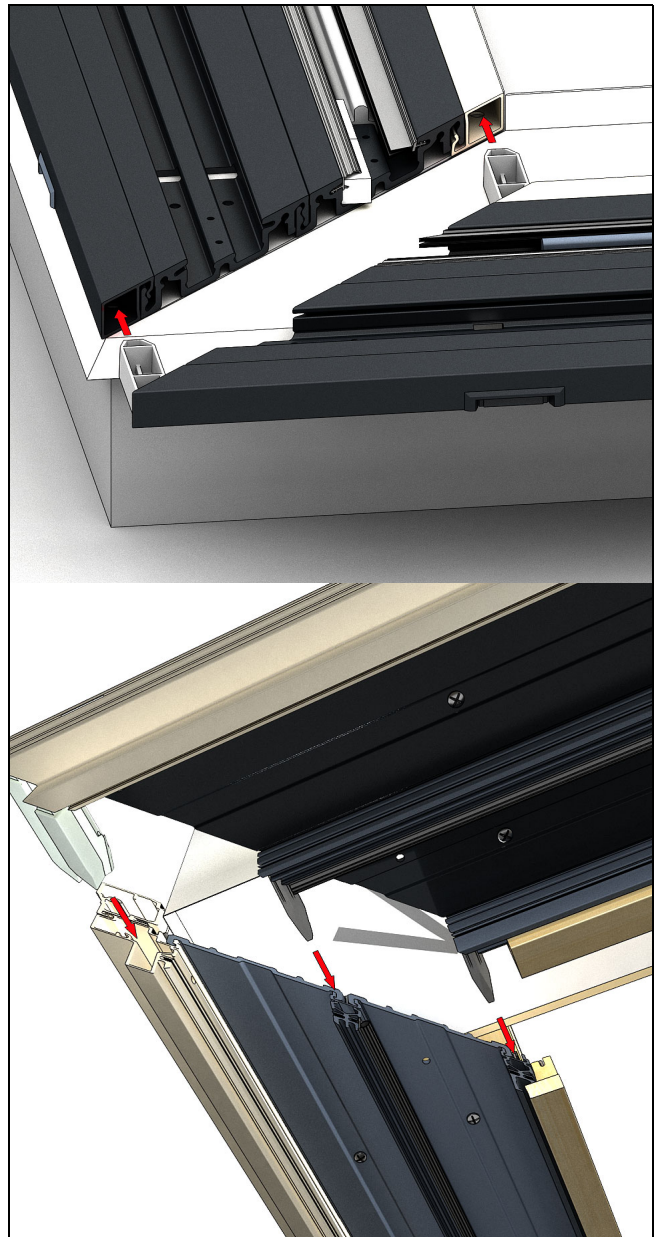

Figure 13
15. Align the corner keys at the head jamb and sill and place the frame into the opening. See Figure 13.